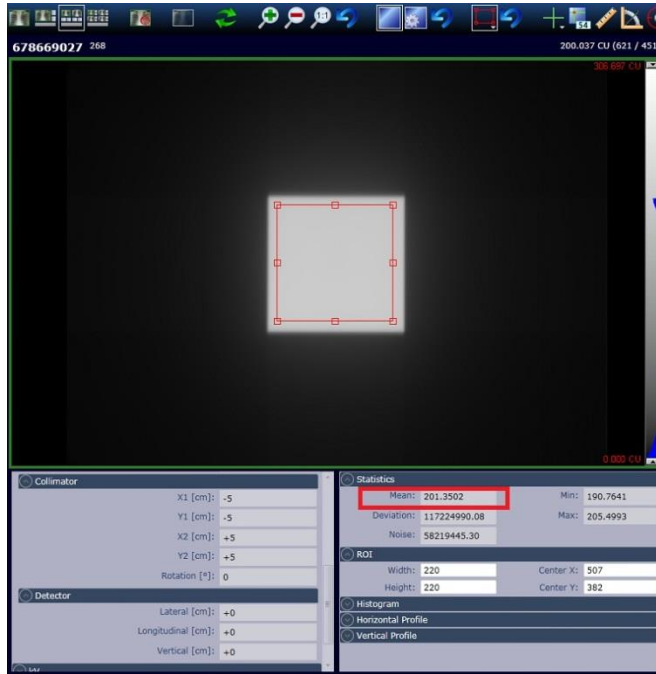

Figure 38: Mean Value of ROI within Open Field (200 MU test shown)
7. Use the ROI drop down menu and select 128 x 128 ROI. Place the ROI approximately in the center of the 10 x 10 cm² image. Use mouse to drag the edges of ROI until it is just within the 10 x 10 cm² image. (See Figure 38).